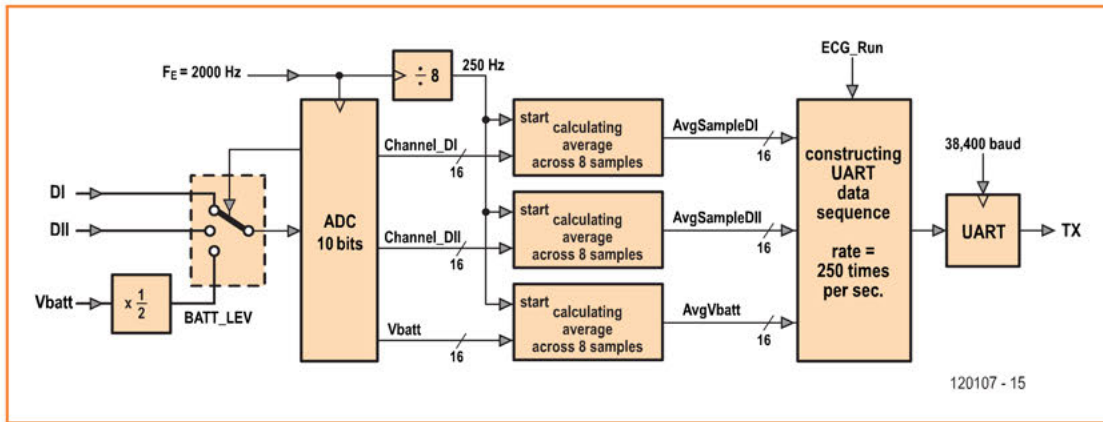

Figure 5. Acquiring and transmitting DI and DII samples.
#### Acquiring and transmitting the samples (Figure 5)
It affects accordingly the **ECG\_Run** indicator validating the transmission of the data sequences (Figure 5), the **PowerOff** signal, and the **Calib** indicator confirming the production of the calibration signal.
If there is no BT link, there is no point converting and transmitting the ECG signals. The STATUS signal produced by the BT module gives this information: link connected (1) or broken (0). The **\_CNInterrupt** interrupt function is activated whenever the STATUS state changes and accordingly affects the **ECG\_Run** indicator and the ADON A/D converter validation bit (Figure 5). The choice made to use an interrupt function obviates the need to interrogate the STATUS signal periodically and hence saves processor time.